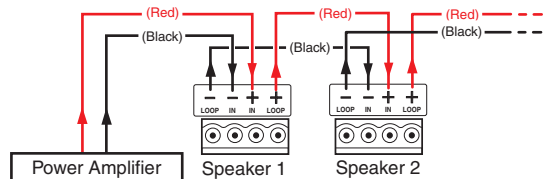

Figure 15. Wiring Multiple Speakers Using Loop-through
- **Wiring Multiple Speakers Using Loop-through:** A loop-through electrical connection is made on the crossover board of the CS 26T Plus. Connect the wires to the captive screw connectors of the speakers, as shown in figure 15. Be sure to tighten the screws.